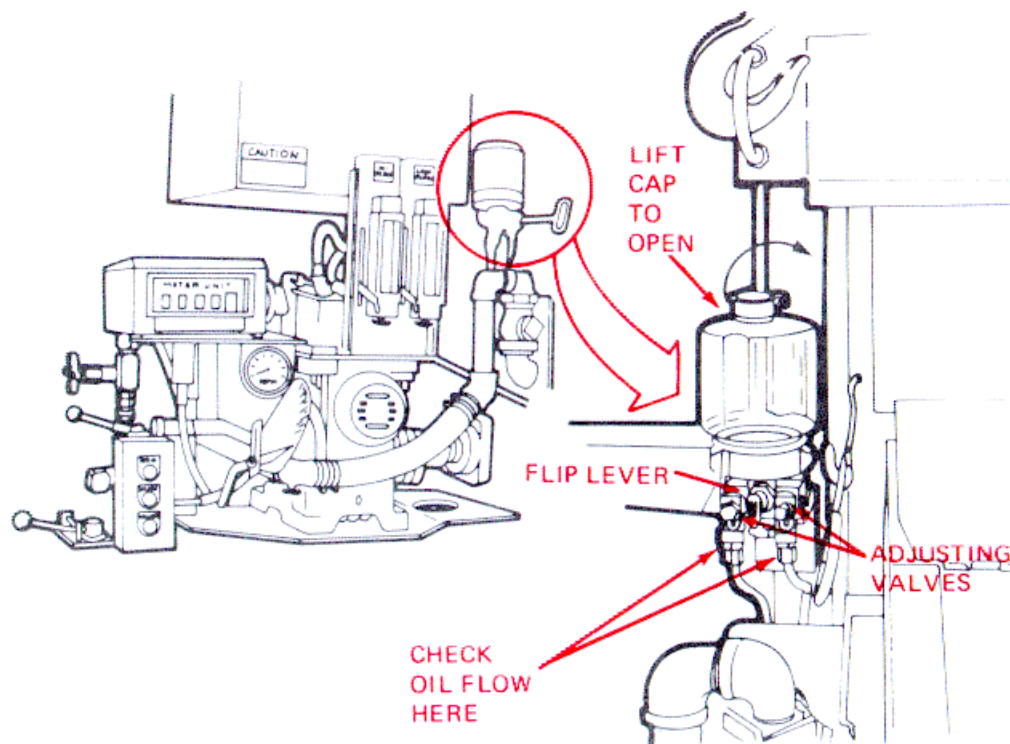

Figure 2-38. Chain Oiler
- b. Turn on Chain Oiler. (See fig. 2-38.)
- b. Turn Off the Chain Oiler. Pull flip lever down. (See fig. 2-38.)